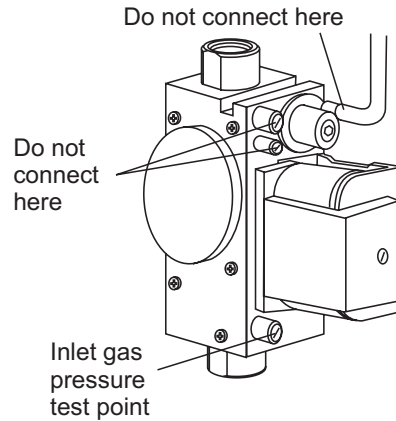

Fig. 5.3
2. Loosen the gas inlet pressure test point screw on the gas valve (see Fig. 5.3). Ensure the gas supply is on and open the boiler service cock to purge in accordance with BS 6891.